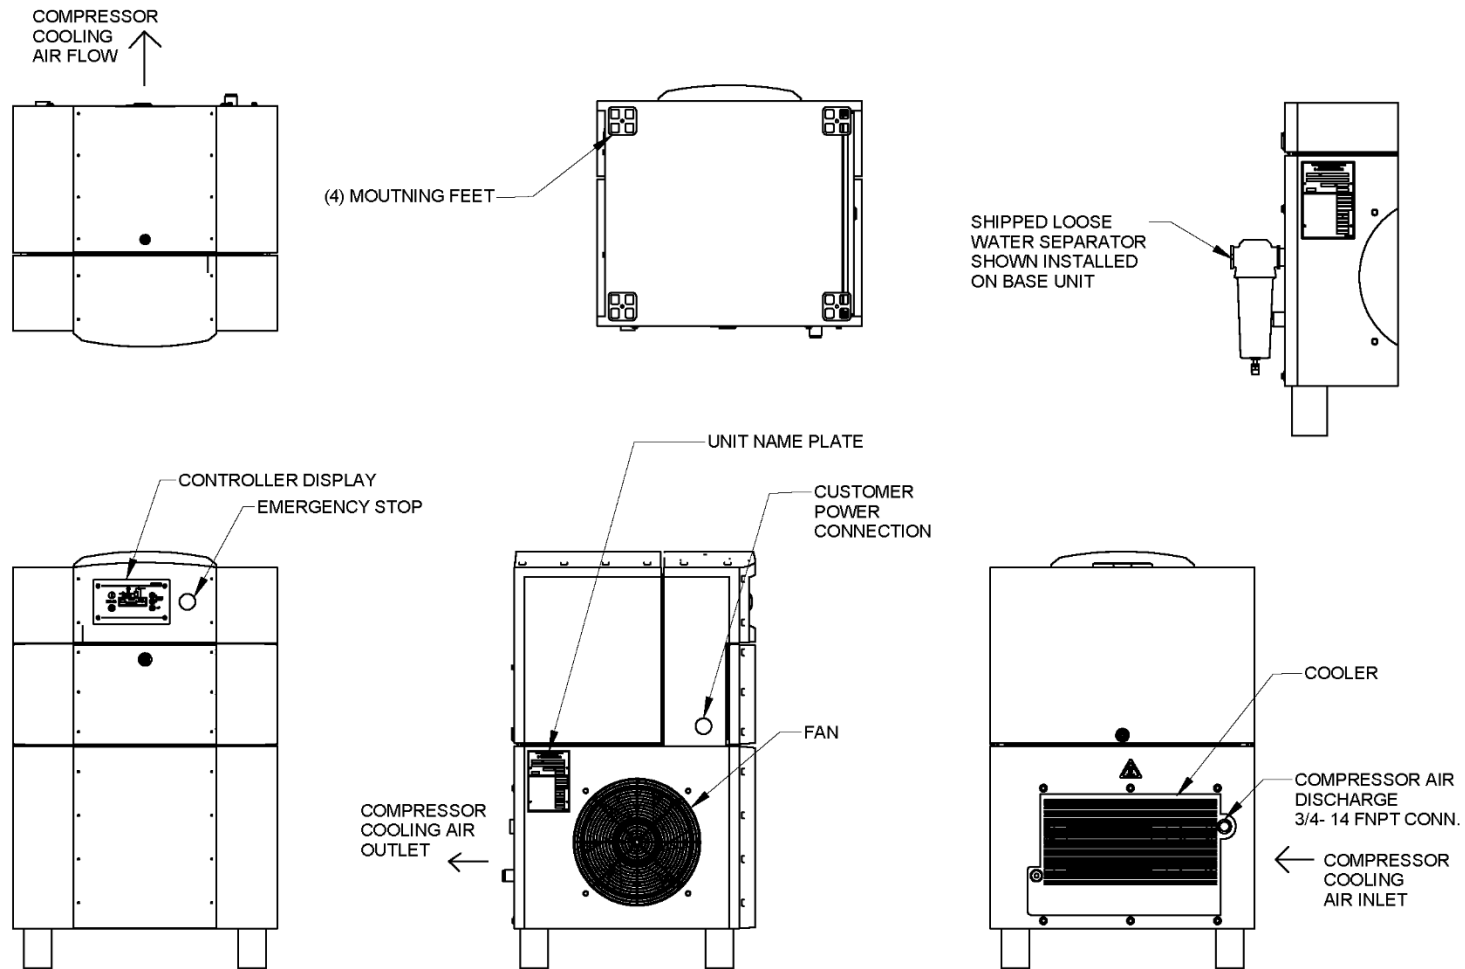

Figure 1-2 COMPRESSOR ILLUSTRATION, EXTERNAL DETAILS
AIR-COOLED UNIT - A combination oil/air cooler is supplied as standard equipment on all air-cooled units. A shaft driven axial fan supplies the ventilation needs for the oil/air cooler and electric motor cooling (Figure 1-2). Air is drawn into the unit through the left side panel, over the motor and discharged through the cooler cores. Do not block the air flow to and from the unit. Allow three and one half (3-1/2) feet to the nearest obstruction on the control box end of the unit. Allow two (2) feet to the nearest obstruction above and on other sides of unit.
3. **Package Inlet Filter** (Figure 1-2) Inspect the Pre-Filter to be sure it is clean. Refer to Section 7 for complete servicing instructions